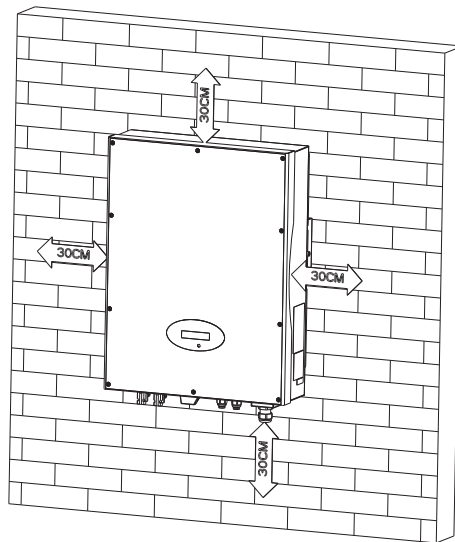

Fig5.2
- 2) The location selected must be suitable for inverters' dimension. (Refer to 3.3 Dimensions and Fig.5.2 Required Clearances)
11) Notice the minimum clearances of the inverter. (Refer to 3.3 Dimensions and Fig.5.2 Required Clearances).